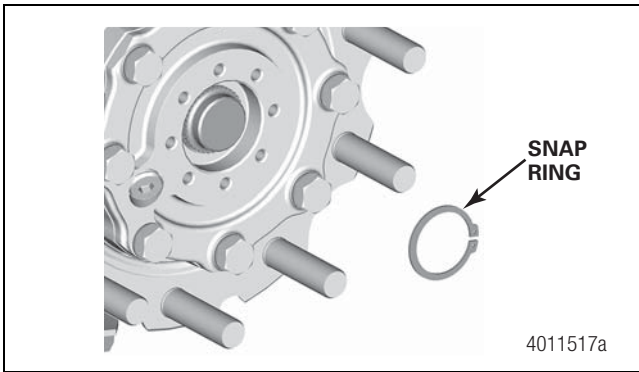

Figure 7.23
4. Install the snap ring onto the end of the axle shaft. Figure 7.23. Ensure the snap ring is positioned in the groove at the end of the axle shaft.